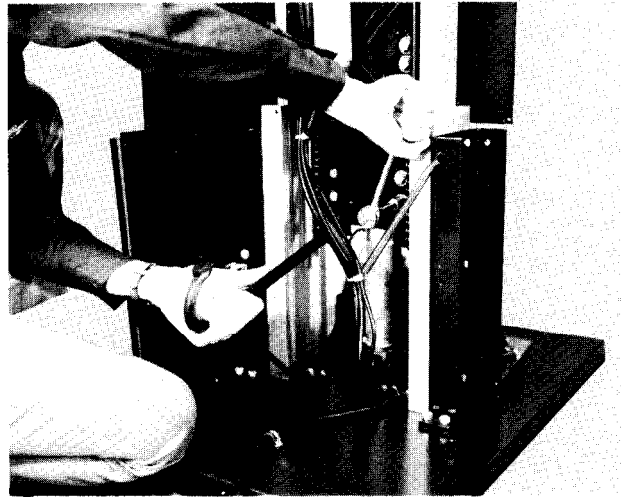

Fig. 32
- 4) Pry up firmly and while prying up, tighten 4 bolts to hold chain in position. (Fig. 32.) The tension should be equal in both chains. The chain should not be drum tight, but with little spring back.